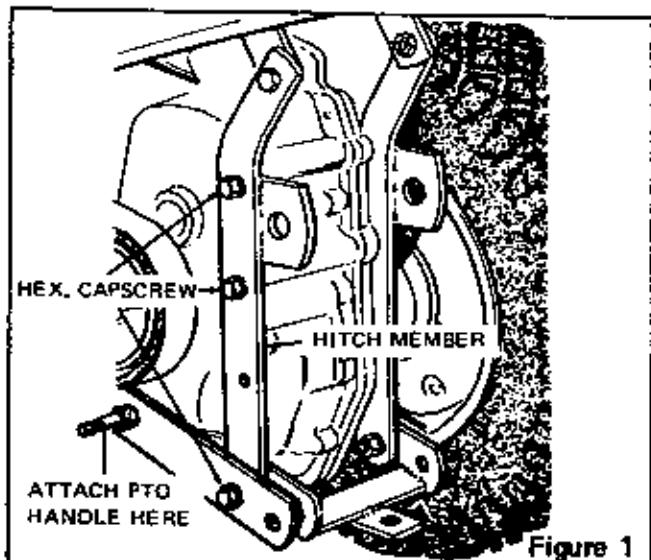

Figure 1
1. Remove 3 hex capscroes from left side of tractor as shown in Figure 1.